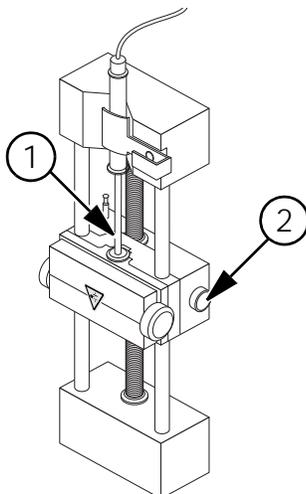

Figure 1-5 Lowering the syringe
1. Press the Release button on the right side of the syringe pump to lower the base and then insert the syringe as shown in Figure 1-5.